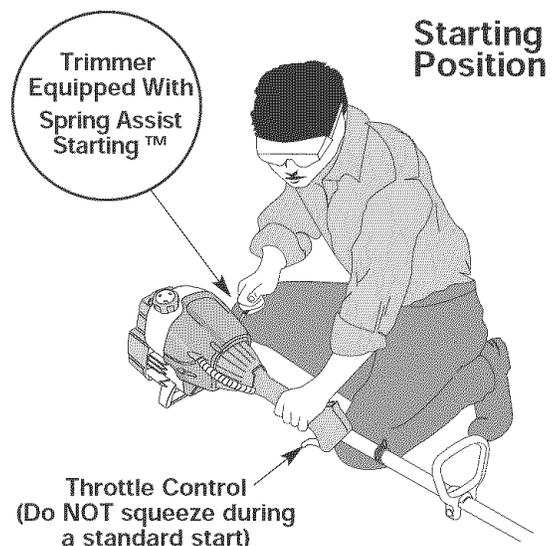

Fig. 8
**WARNING:** Avoid accidental starting. Make sure you are in the starting position when pulling the starter rope (Fig. 8). To avoid serious injury, the operator and unit must be in a stable position while starting.
4. Crouch in the starting position and **do not squeeze the throttle control** (Fig. 8). Pull the starter rope out with a **controlled and steady motion** until the engine starts.